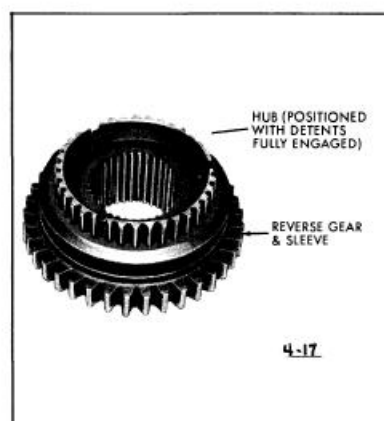

Figure 4-17—Sliding Sleeve Into Hub
4. Slide sleeve onto hub until the detent is engaged. See Figure 4-17.